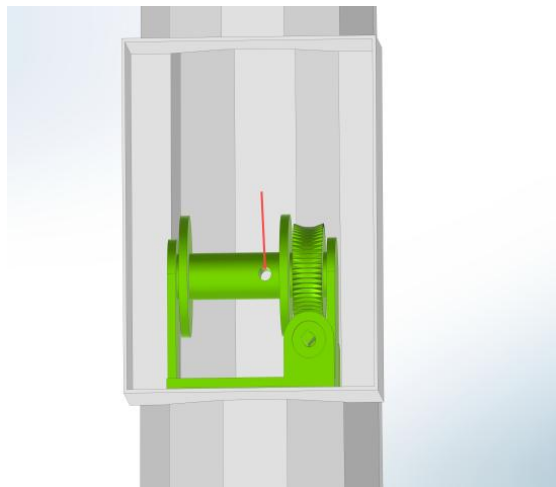

Figure 15
1. Open the access door. Feed the main hoisting wire rope through the hole in the winch drum and secure it, as shown in Figure 15. For an electrically operated lifting mechanism, add lubricating oil to the gearbox.